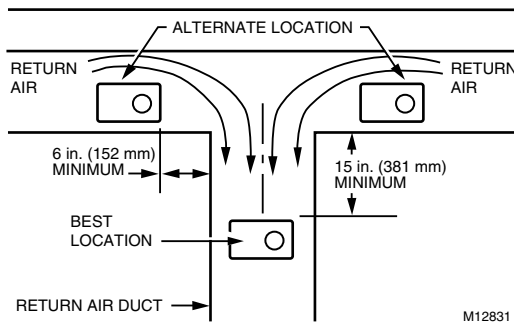

Fig. 3. Selecting duct location for humidistat.
The humidistat must be mounted upstream from the humidifier or bypass duct to ensure it is properly sensing the relative humidity of the living space. Locate the control at least 8 in. (203 mm) upstream from the humidifier in the return air duct. (See Fig. 3.)
2. Apply the template to the return duct (see Fig. 3 on page 6). Make sure the template is level before drilling. (Use of a small level is recommended.)